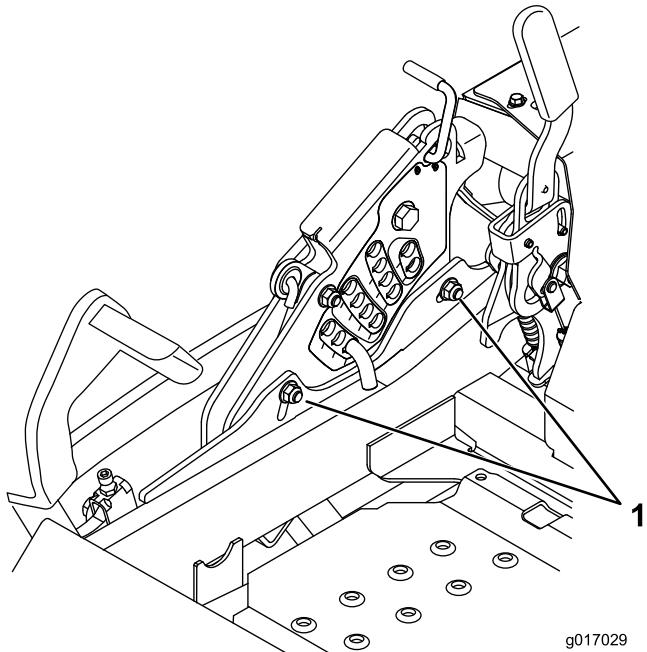

Figure 90
- To adjust the single point system, loosen the 2 bolts at the bottom of the height of cut plate. Refer to Figure 90.
- Tighten the 2 bolts at the bottom of the height of cut plate (Figure 90). Torque to 37-45 N·m (27-33 ft-lb).